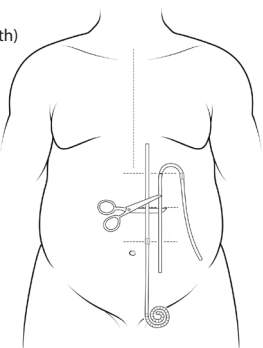

Figure 12
2. Overlap the Upper and Lower Catheters and choose an appropriate location to cut and join the two. See figure 12.